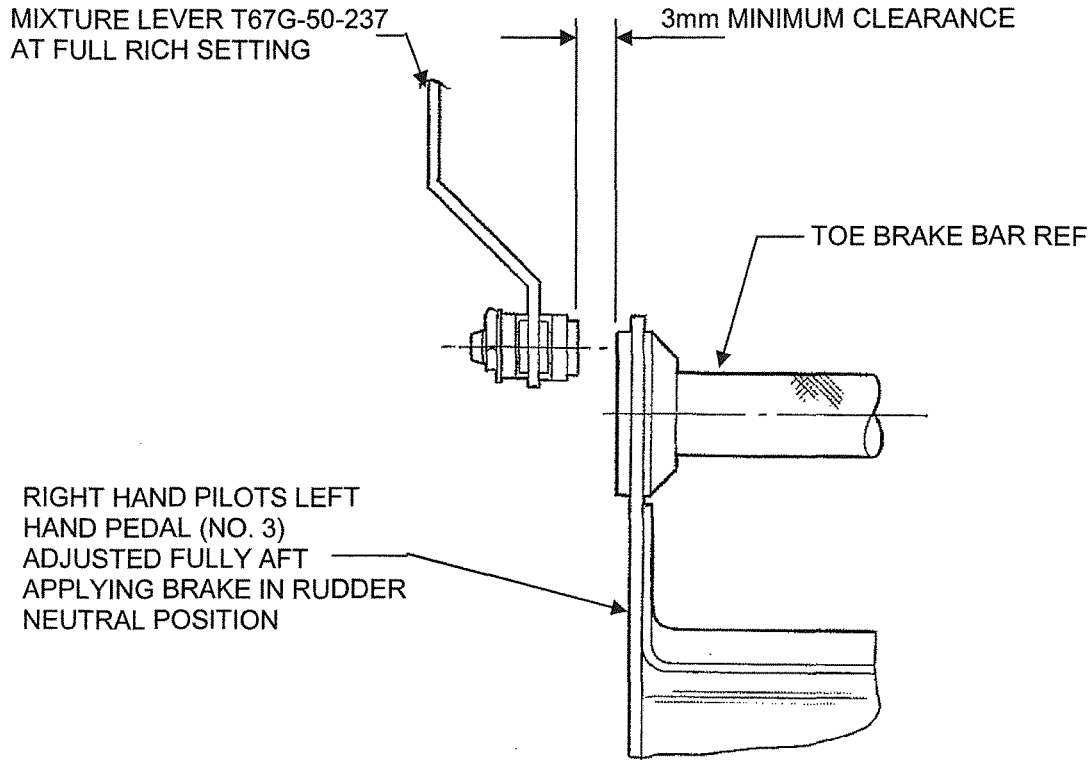

FIGURE 7
21. Ensure, that a minimum clearance of 3mm is achieved between Pedal No 3 and Mixture Lever operating arm, refer Figure 7. Refer paragraph 9 for packing washers.